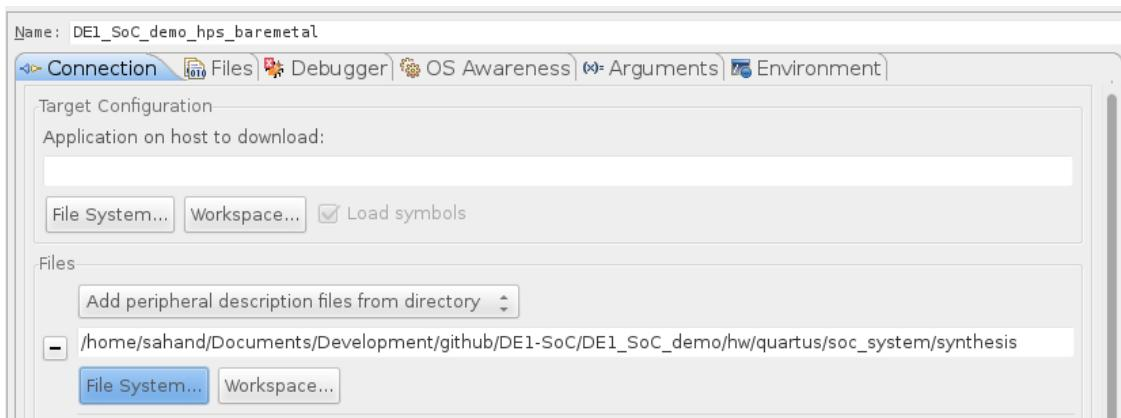

Figure 12-6. Debug Configuration "Files" Tab
- b. In 9.3.2, we configured our HPS to use some FPGA peripherals. We can instruct the debugger about this so it can show more detailed information when debugging. To do this, set the combobox to “Add peripheral description files from directory” and set it to the “DE1_SoC_demo/hw/quartus/soc_system/synthesis” directory, as shown in Figure 12-6. This directory contains a file called “soc_system_hps_0.hps.svd” which has information on all of the HPS’ peripherals which are in the FPGA fabric.